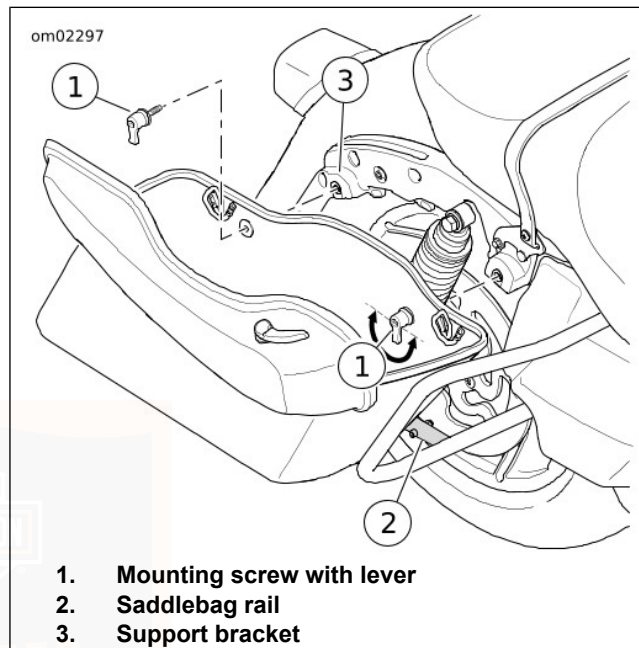

Figure 61. Saddlebag Removal/Installation
2. See Figure 61. Turn the mounting screw levers counterclockwise to remove the mounting screws from the support bracket.
1. See Figure 61. Carefully place saddlebag in position on saddlebag rail. Align the mounting grommets with the support bracket.